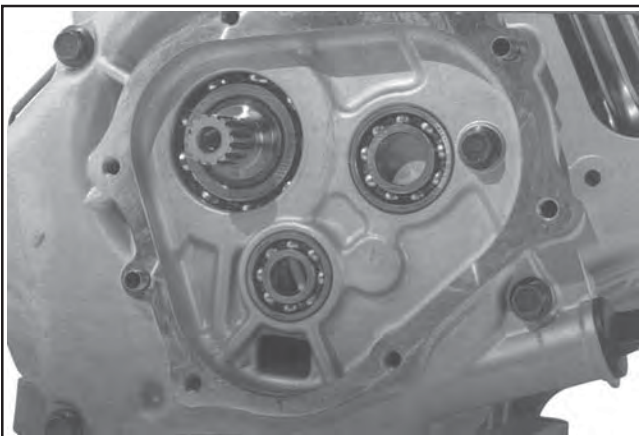

Figure 9-74. Removing Dowel Pins and Gasket.
- Remove the dowel pins and gasket. Clean the gasket surfaces with a cleaning solvent or aerosol type gasket remover. **Do not nick or scrape the sealing surfaces.** See Figure 9-74.